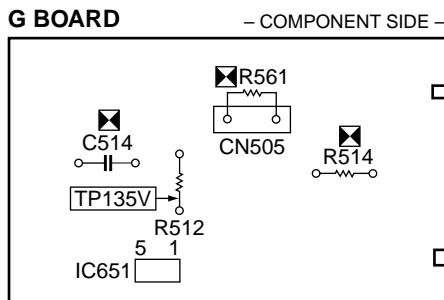

Fig. 4-2
5. If anode voltage is 30kV or lower, replace C514 of 390PF/2kV with that of 100PF/2kV, and check if the voltage is within the standard range. (**Fig.4-2**)
1. Repart steps ① ~ ⑦ as above.
3. If hold down voltage is 32.5kV or lower, mount a resistor (220kΩ, 1/4W : RN) onto R561 and check again if the hold-down voltage is within the standard range. (**Fig.4-2**)
5. If step 4 is not satisfied, replace IC651 and repeat above steps. (**Fig.4-2**)
3. Connect a 220kΩ variable resistor, across pin ③ and pin ⑤ of IC651 set to maximum value.
6. Gradually turn the 220kΩ variable resistor, and check if OVP works properly when the voltage of TP135V is between 139.0 ~ 151.5V. (**Fig.4-2**)